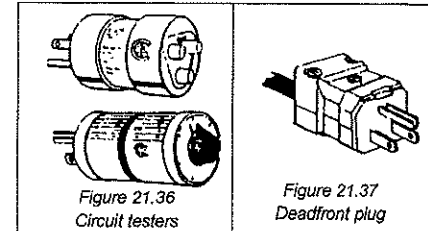

Figure 21.36
- All tools should be tested regularly for effective grounding with a continuity tester (Figure 21.36).
- Check extension cords and outlets with a circuit-tester (Figure 21.36).